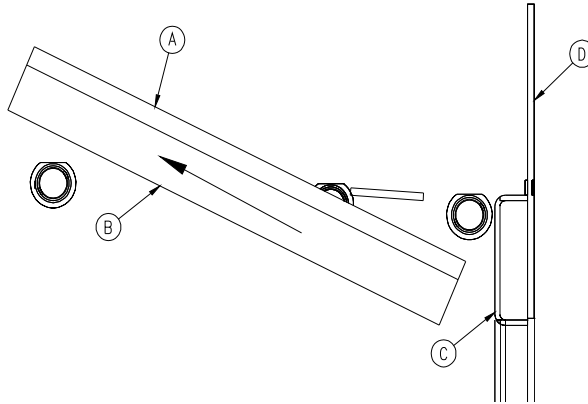

Figure 3a
1. Stack the baffle boards (A) on top of the vermiculite boards (B) as shown in figure 3a .